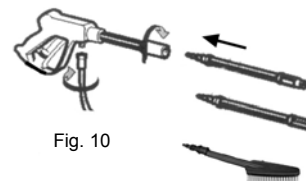

Fig. 10
3. Once the high pressure hose is connected to the trigger gun, you can attach any of the lances and accessories that you desire. To attach either of the lances or the brush to the trigger gun, hold the trigger gun in your left hand insert the desired lance or the brush and push it in all the way into the connector on the trigger gun and turn it clockwise 60° until it locks in place. To remove the attachment, push down on the attachment and turn counter-clockwise 60° and then pull out. Make sure that the attachments are securely locked in place before use. (Fig. 10)